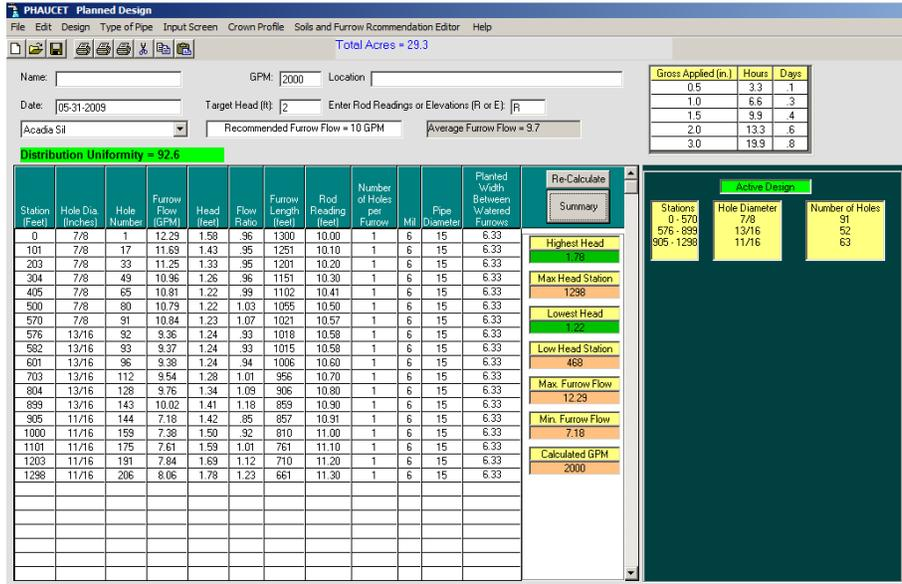

Figure 18 - Summary Design Screen view
- Complete Design:** Click this button to toggle from the Complete Design Screen view to the Summary Design Screen view (fig. 18)